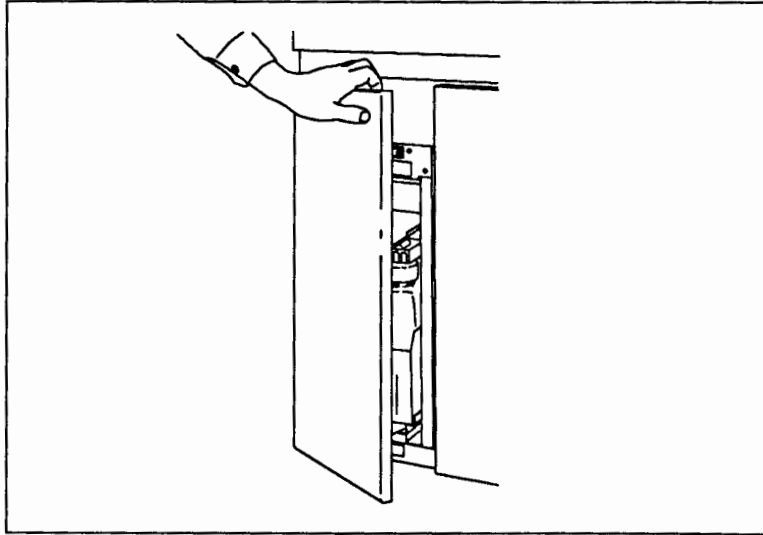

Figure 2-30. Toner Compartment Door
- a. Open the toner compartment door. See Figure 2-30.